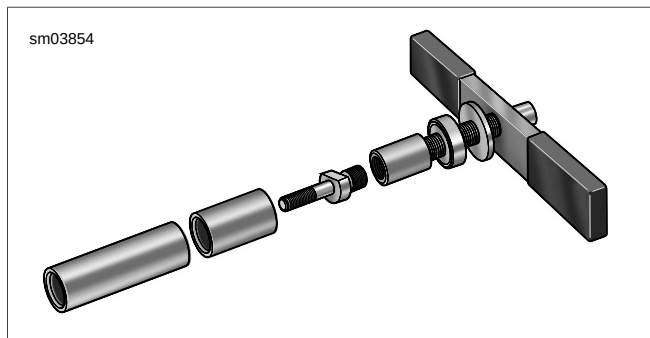

Figure 3-141. Sprocket Shaft Bearing Installer
4. See Figure 3-141. Obtain the SPROCKET SHAFT BEARING INSTALLER (Part No. HD-97225-55C). Assemble tool as described below.